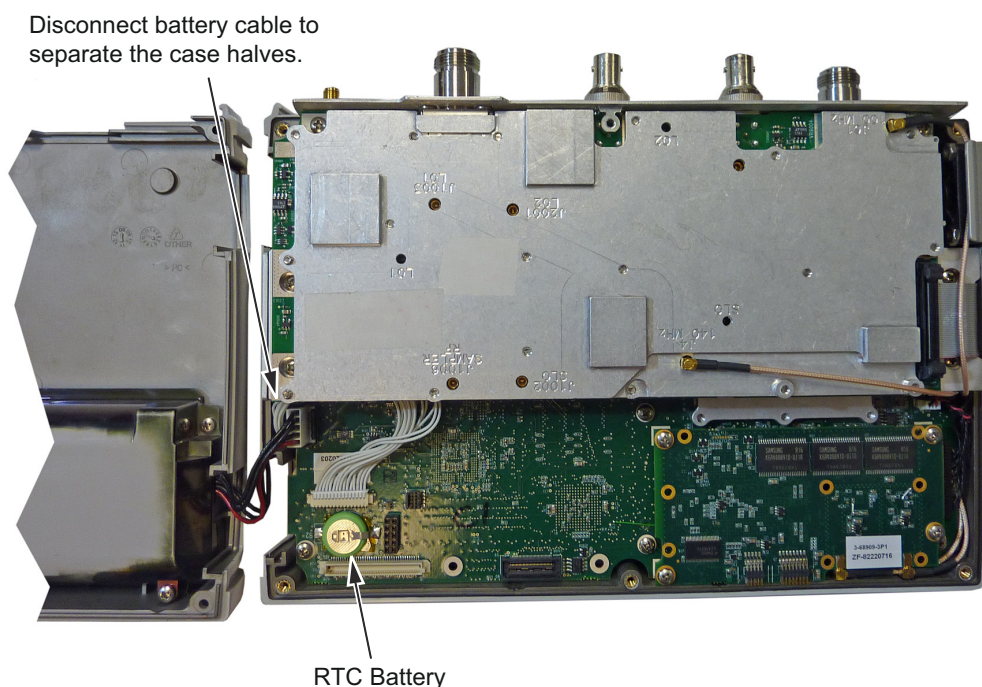

Figure 6-3. Site Master Opened 180 Degrees
6. Lay the Site Master flat and remove the battery connector cable between the two halves (Figure 6-3).